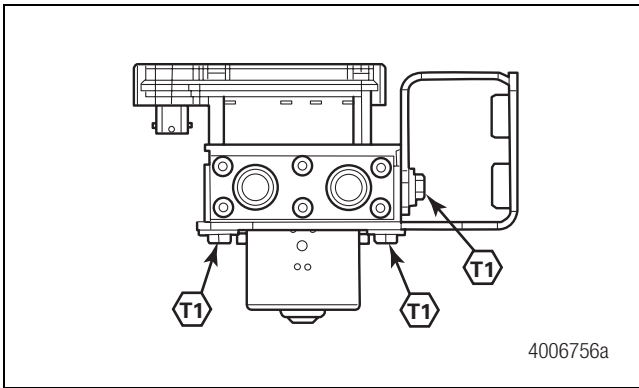

Figure 1
3. Position the modulator assembly and bracket in place on the vehicle. Figure 1.